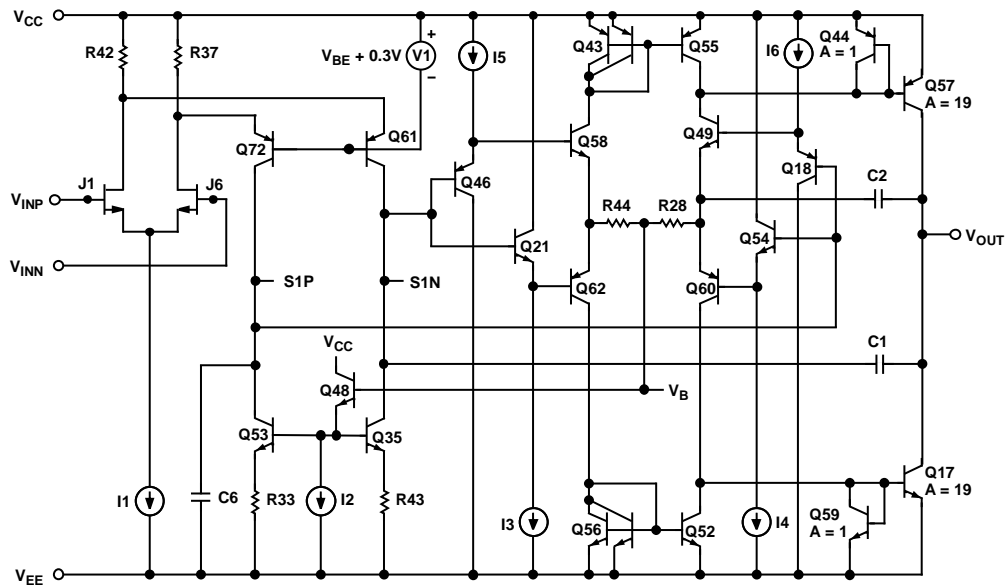

Figure 36. Simplified Schematic
The AD823 is fabricated on the Analog Devices, Inc. proprietary complementary bipolar (CB) process that enables the construction of PNP and NPN transistors with similar  $f_T$ 's in the 600 MHz to 800 MHz region. In addition, the process also features N-Channel JFETs that are used in the input stage of the AD823. These process features allow the construction of high frequency, low distortion op amps with picoamp input currents. This design uses a differential output input stage to maximize bandwidth and headroom (see Figure 36). The smaller signal swings required on the S1P/S1N outputs reduce the effect of the nonlinear currents due to junction capacitances and improve the distortion performance. With this design, harmonic distortion of better than  $-91$  dB @ 20 kHz into  $600 \Omega$  with  $V_{OUT} = 4$  V p-p on a single 5 V supply is achieved. The complementary common emitter design of the output stage provides excellent load drive without the need for emitter followers, thereby improving the output range of the device considerably with respect to conventional op amps. The AD823 can drive 20 mA with the outputs within 0.6 V of the supply rails. The AD823 also offers outstanding precision for a high speed op amp. Input offset voltages of 1 mV maximum and offset drift of  $2 \mu\text{V}/^\circ\text{C}$  are achieved through the use of the Analog Devices advanced thin film trimming techniques.